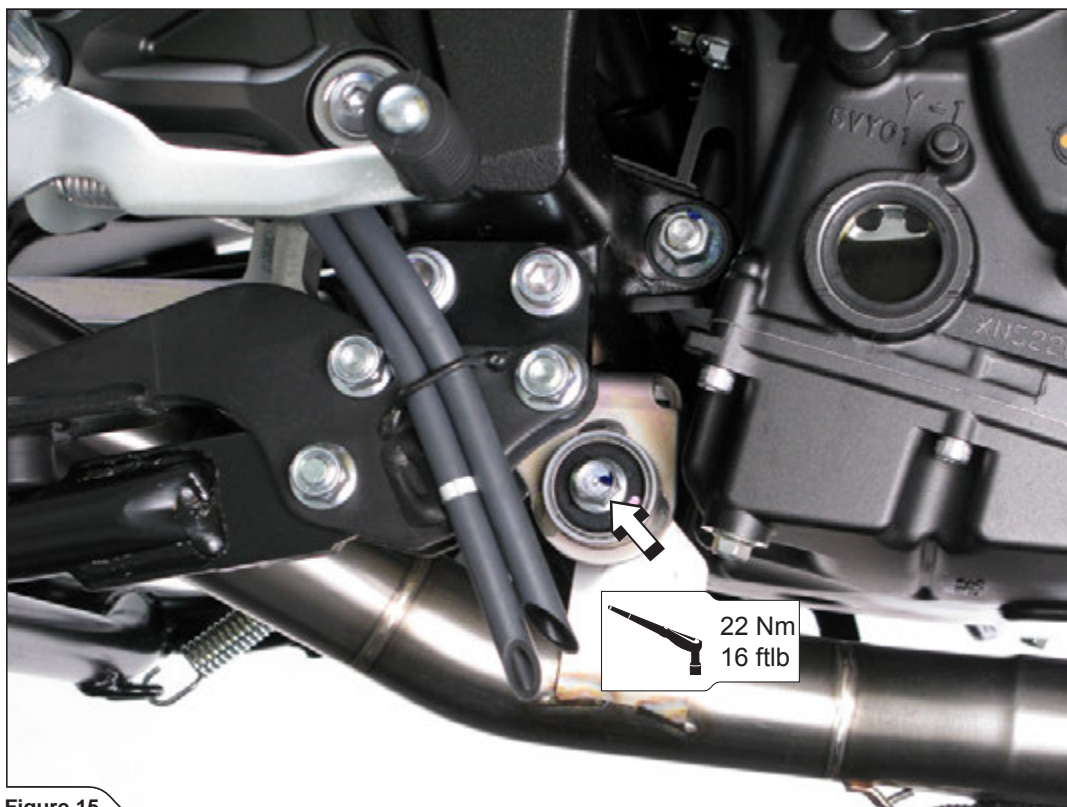

Figure 15
7. For Akrapovič Racing only: tighten the link pipe bracket using stock bolt and washer (Figure 15).